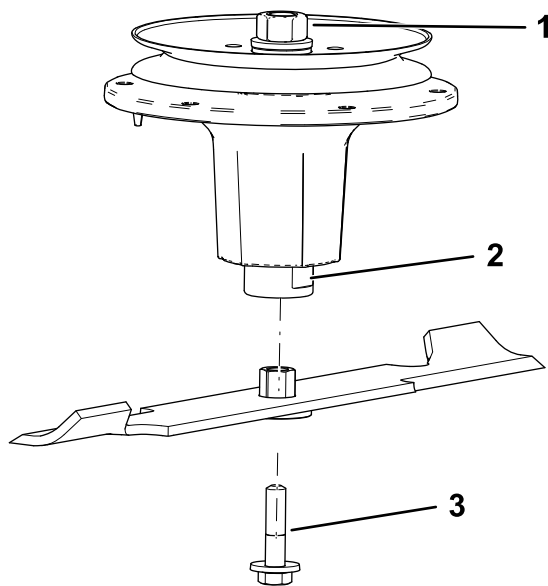

Figure 112
2. Install the bushing/blade assembly into the spindle shaft (Figure 112).